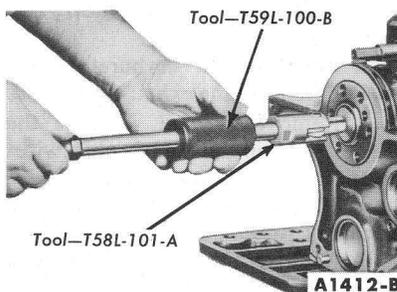

FIG. 86—Clutch Pilot Bushing Removal
18. Remove the bearing inserts from the connecting rods and caps. Remove the main bearing caps. Remove the clutch pilot bushing (Fig. 86).